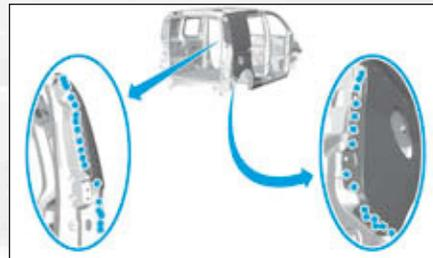
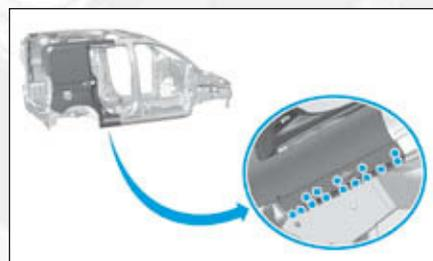
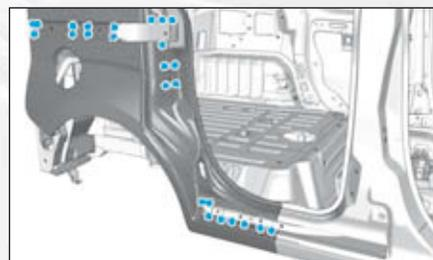

FIG.145
FIG.146
FIG.147
- Dépointer les points (Fig.145), (Fig.146), (Fig.147), (Fig.148) et (Fig.149).